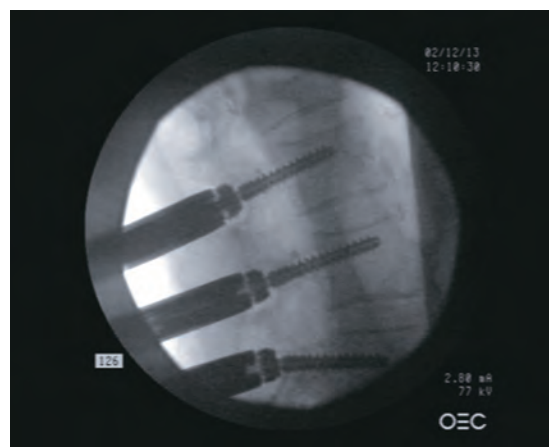

Figure 13
- Verify final positioning with lateral fluoroscopic imaging (Figure 13).